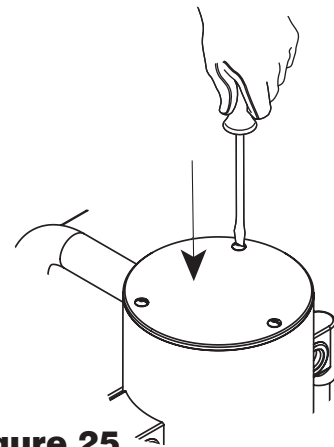

figure 25
- Carefully refit the cover and tighten the screws (fig. 25)